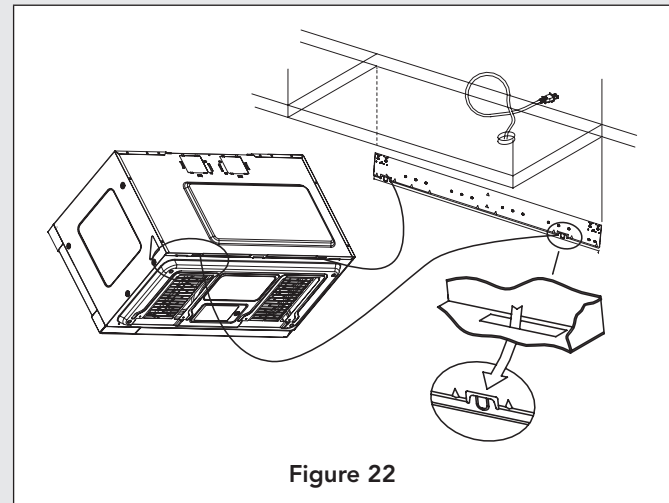

Figure 22
- Hang the unit on two tabs at the bottom of the mounting plate. See Figure 22.